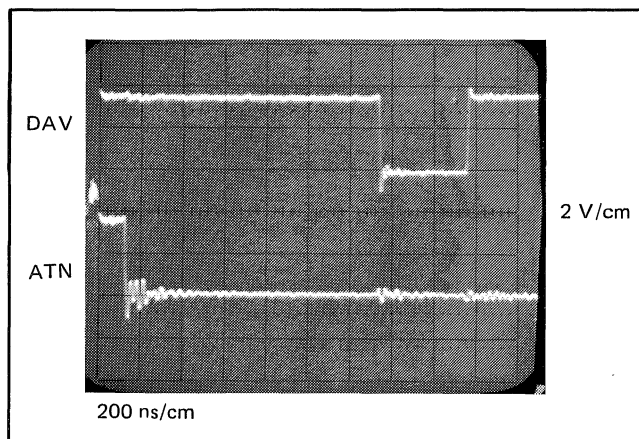

Figure 4-4. DAV Delay to ATN.
j. With the Oscilloscope sweep speed set to 200 nanoseconds per centimeter, the display should be similar to that shown in Figure 4-4. The time between the negative going edge of the ATN signal and the negative going edge of the DAV signal should be greater than 1 microsecond.